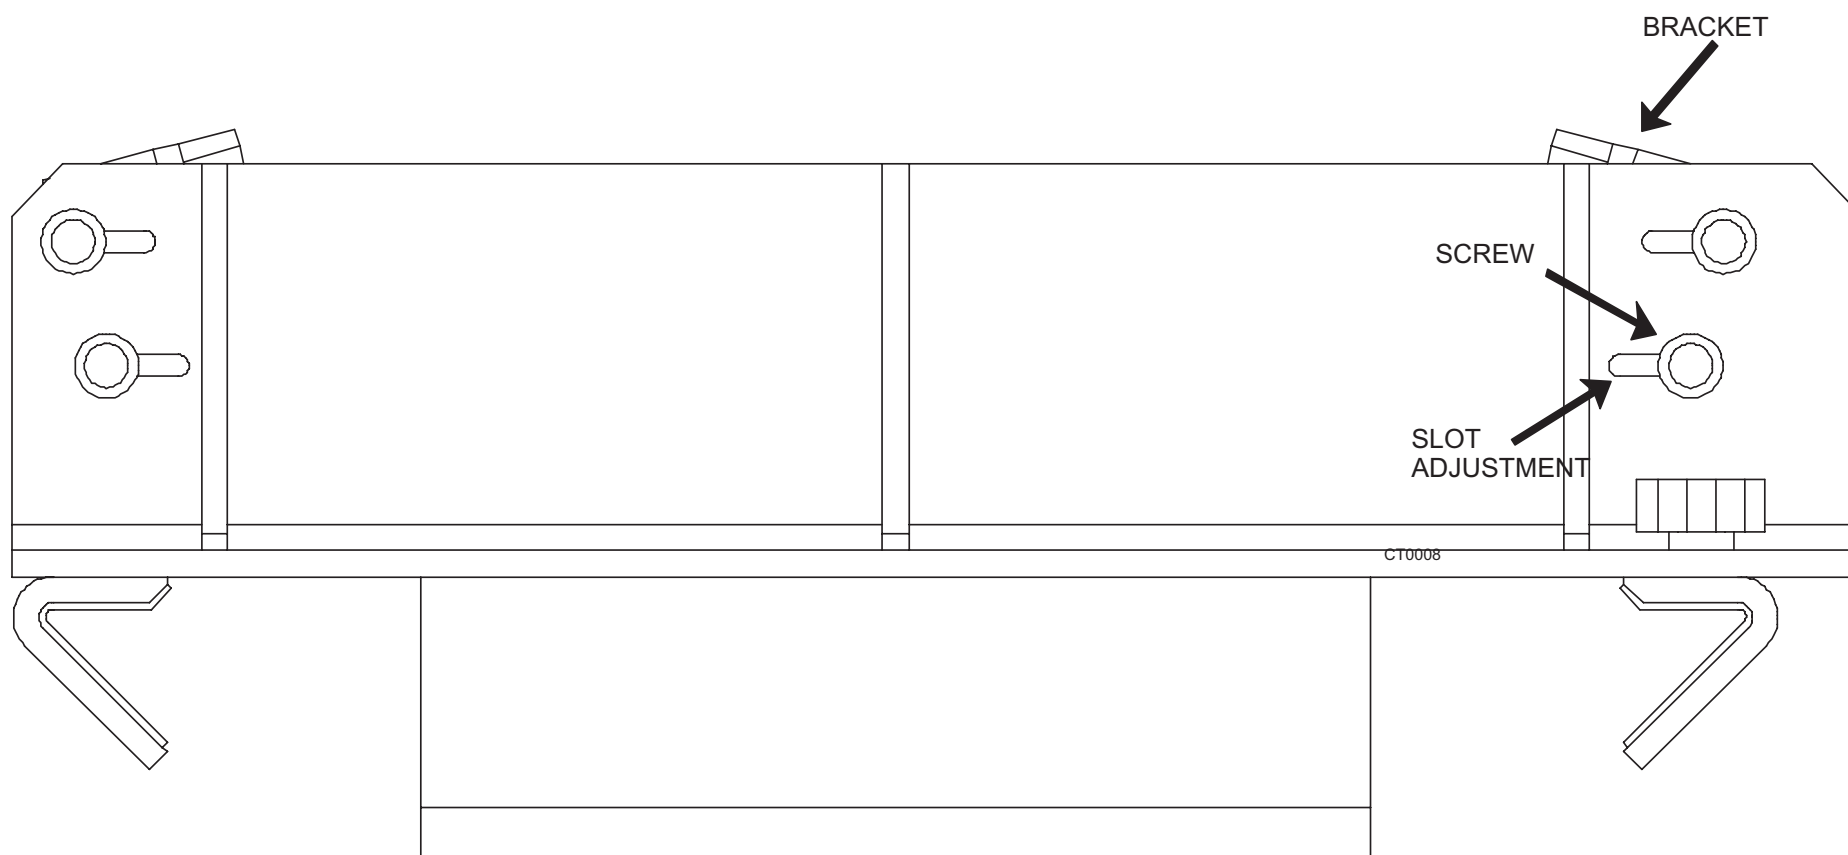

FIGURE 81 RETAINER BRACKET ADJUSTMENT SLOTS
7. With the phantom sitting in the support, adjust the left/right centering by loosening the screws and sliding the brackets as needed in their slots. Turn the screws clockwise to re-tighten them after making the centering adjustment and rescan to see if centered in the field of view. Refer to Figure 81.